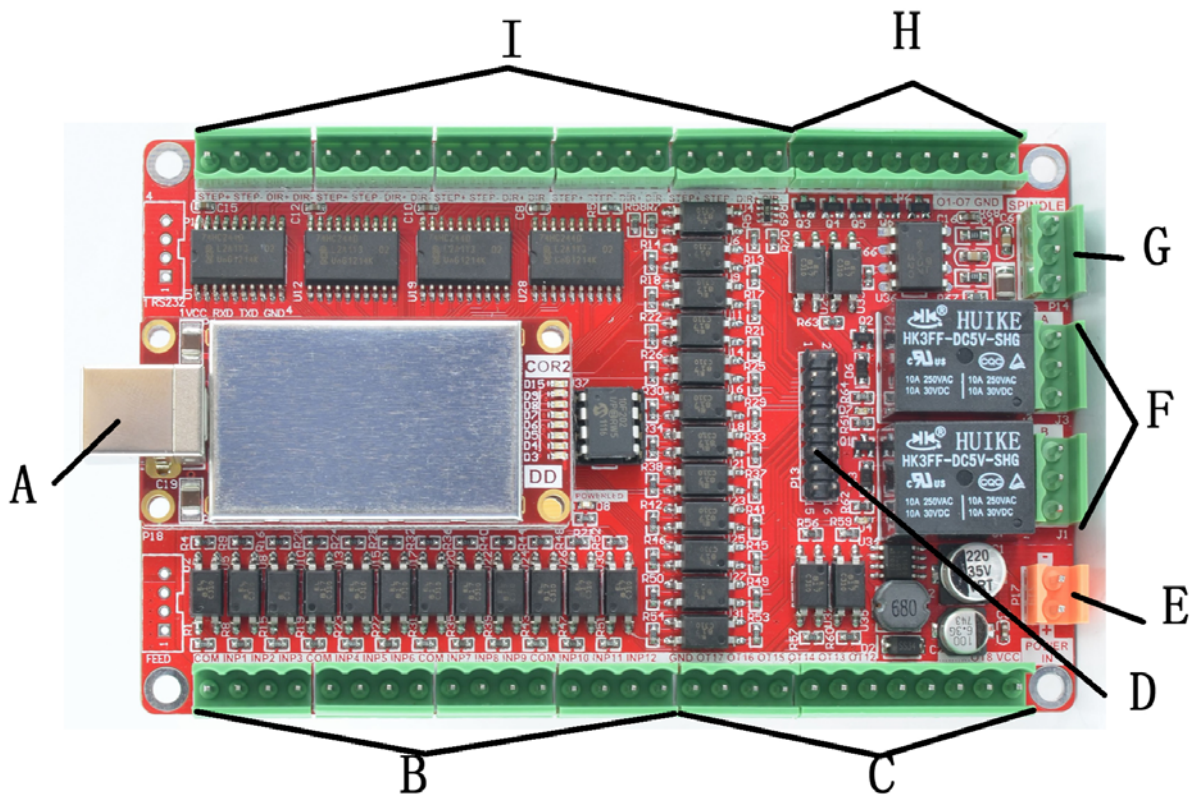
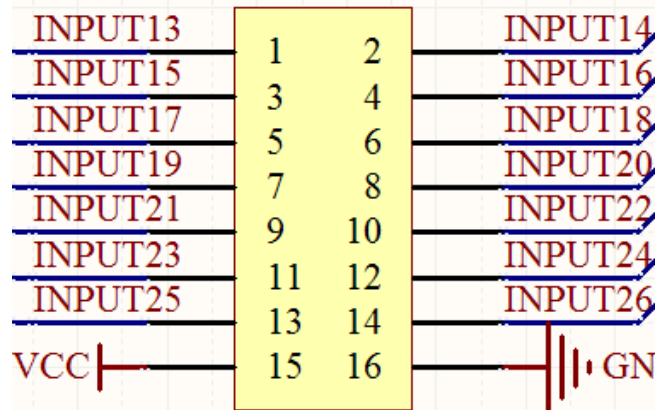
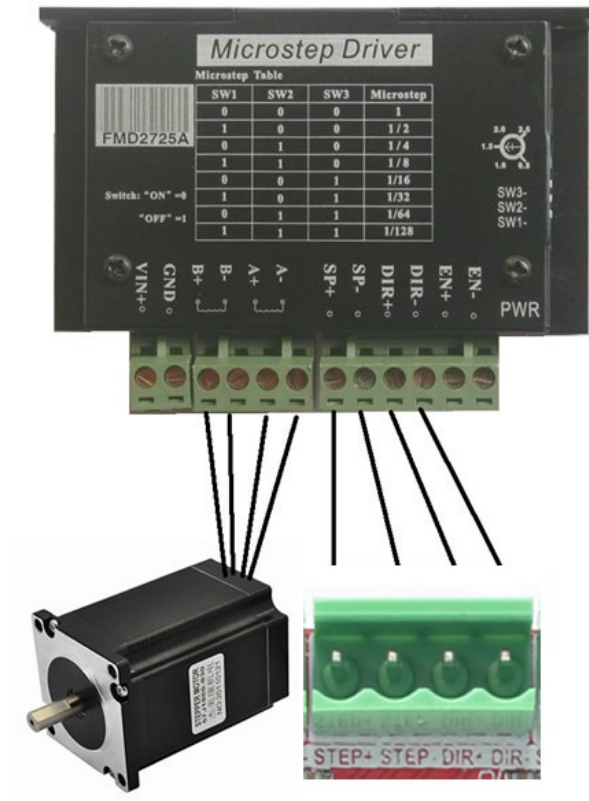

Figure2-1. Functional modules defined in Figure
Figure2-4. 5V General INPUT PORT IN13-IN26
Figure2-7. Stepper motor driver connection method
- D) 5V General INPUT PORT IN13-IN26, it's a 2.54mm double pin port. See as Figure 2-1 The first left Pin is Pin1, PIN1-PIN16 are set as Figure2-4.
- E) The Yellow input terminals is power input within 15~36VDC. See as Figure2-1,the up terminal is Positive and the bottom terminal is Negative.
- F)2 Relay Output, Relay R1 and R2 are set as O18 and O19 in mach3, Each relay's 3 Terminal are CLOSE\COM\OPEN from up to down, see as Figure 2-1.
- I) 5-axis stepper motor control signal output, defined as CK+\CK-\DIR+\DIR-. There are positive pulse, negative pulse, positive direction, negative direction. These ports are common positive connections. Therefore, on the board CK + and DIR + are linked together to 5V. So this board does not support the common negative connection. Wiring method refer to Figure 2-7. This card doesn't have EN signal, most drives on sale should not be connected to the EN signal. It is defined as X \ Y \ Z \ A \ B channel from left to right, see as Figure 2-1.